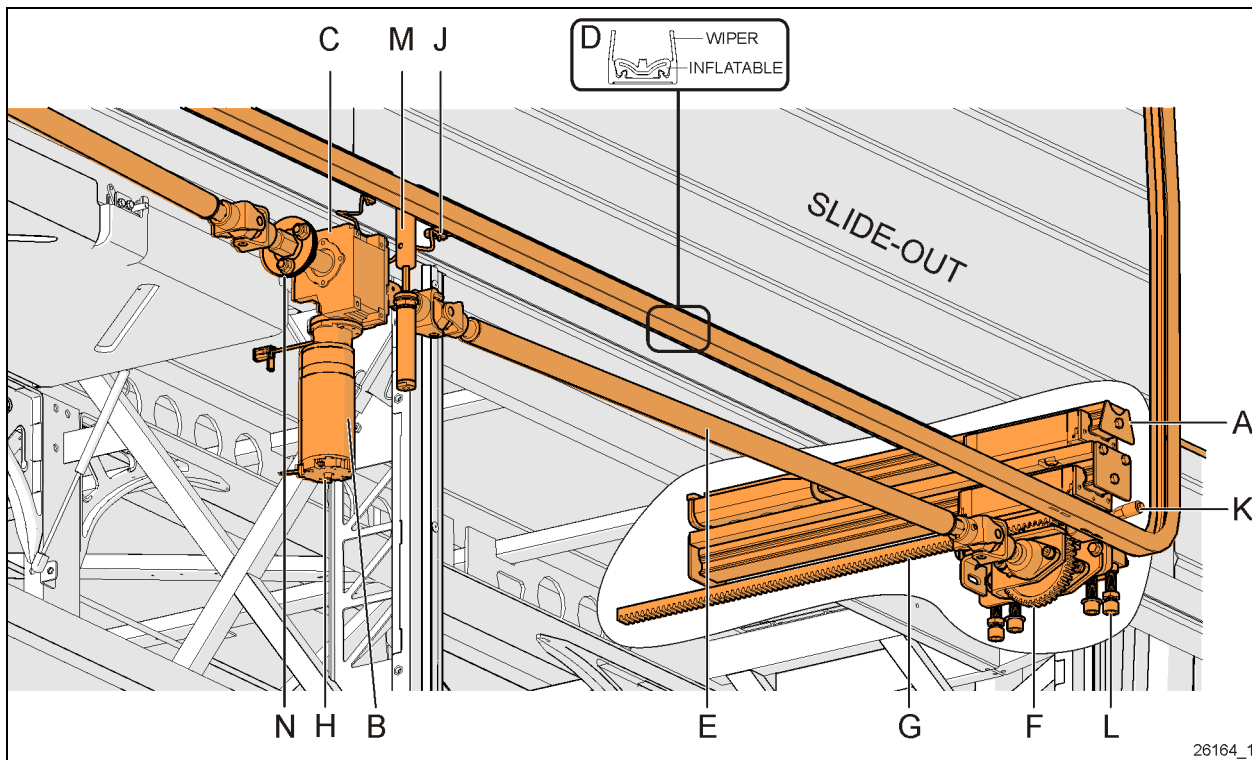

FIGURE 2: TYPICAL SLIDE-OUT MECHANISM OVERVIEW (FRONT LEFT SYSTEM SHOWN)
Refer to Figure 2. Each slide-out is moved in and out on stacked linear bearings, (A). Power comes from one electrical motor (B). It is either oriented vertically or horizontally. The motor drives a right angle speed reducing gearbox (C).